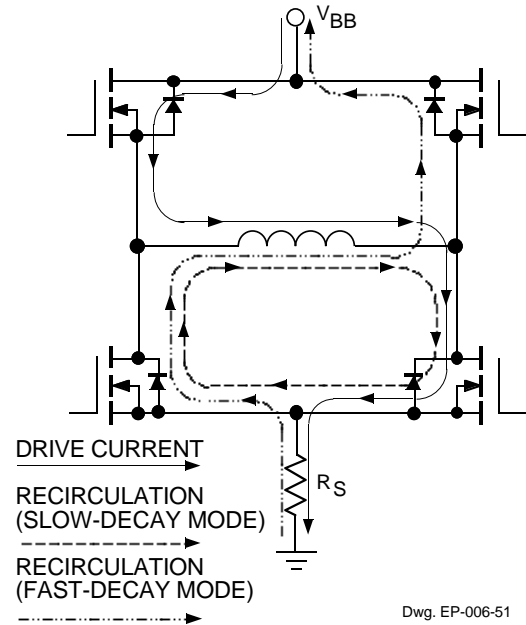
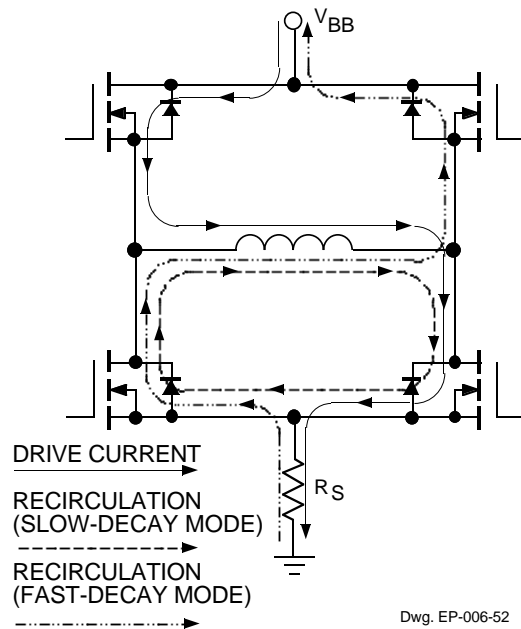

Figure 6. Current Paths
Figure 11. Current Paths With Synchronous Rectification Enabled
Internal PWM Current Control. Each H-bridge is controlled by a fixed-off-time PWM current-control circuit that limits the load current to a desired value (I_{TRIP}). Initially, a diagonal pair of source and sink DMOS outputs are enabled and current flows through the motor winding and the current-sense resistor (R_S) as shown in figure 6. When the voltage across R_S equals the DAC output voltage, the current-sense comparator resets the PWM latch, which turns off either the source drivers (slow-decay mode) or both the source and sink drivers (fast-decay or mixed-decay modes) and the current recirculates as shown in figure 6. During this recirculation the current decreases until the fixed-off time expires. The appropriate output drivers are enabled again, the motor-winding current again increases, and the PWM cycle is repeated.
Synchronous Rectification. When a PWM off cycle is triggered, by a bridge disable command or internal fixed-off time cycle, load current will recirculate according to the decay mode selected by the control logic (figure 6). The A3977 synchronous rectification (SR) feature will turn on the appropriate DMOS devices during the current decay and effectively short out the body diodes with the low $r_{DS(on)}$ driver (figure 11). In fast-decay synchronous-rectification mode the voltage across R_S is monitored to prevent reverse conduction. Just before the recirculation current reaches zero all of the DMOS devices are turned off and current flows through the body diodes.